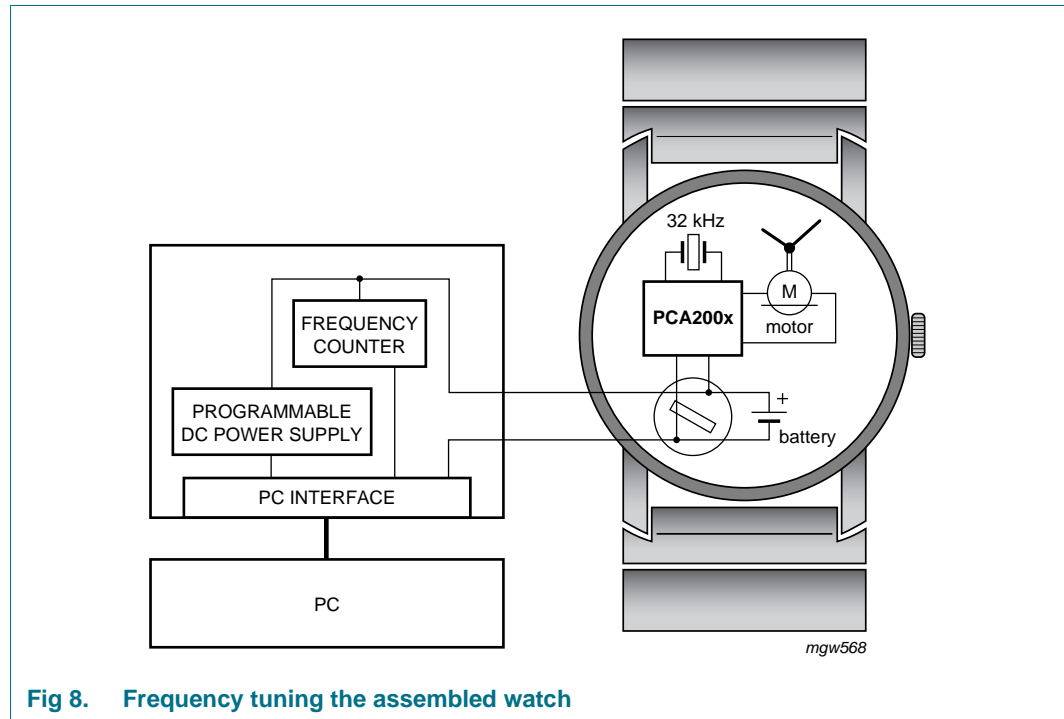
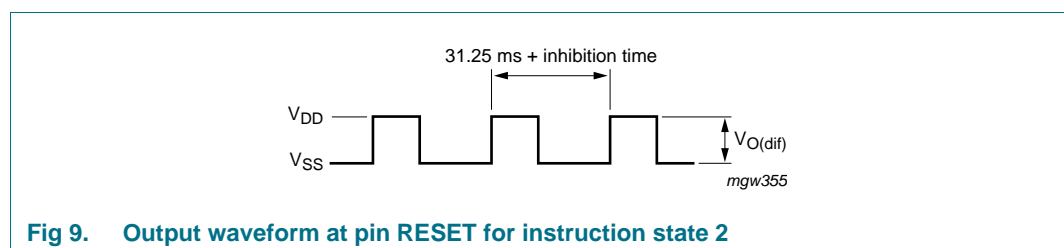

Fig 8. Frequency tuning the assembled watch
Fig 9. Output waveform at pin RESET for instruction state 2
Each instruction state is switched on with a pulse to  $V_{P(prog)(start)}$ . After this large pulse, an initial waiting time of  $t_0$  is required. The programming instructions are then entered by modulating the supply voltage with small pulses (amplitude  $V_{P(mod)}$  and pulse width  $t_{mod}$ ). The first small pulse defines the start time, the following pulses perform three different functions, depending on the time delay ( $t_d$ ) from the preceding pulse (see Figure 6, Figure 7, Figure 8, Figure 9 and Figure 10):
Figure 8 shows the test set-up for frequency tuning the assembled watch.
- State 2; inhibition time has a value of  $n \times 0.122$  ms. A signal with the periodicity of 31.25 ms +  $n \times 0.122$  ms appears at pin RESET and as current modulation at pin  $V_{DD}$  (see Figure 9 and Figure 10)